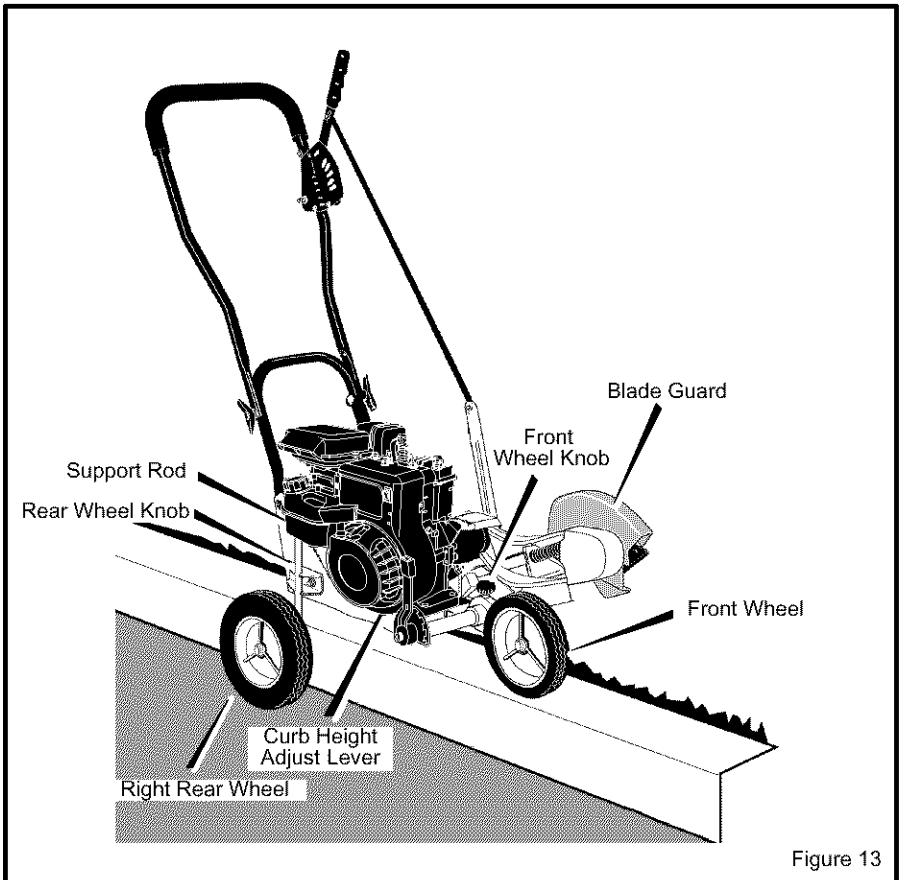

Figure 13
Because the front wheel and the right rear wheel are adjustable, the Edger can be used on uneven surfaces, such as the curb shown in Figure 13. Set the wheel positions as follows.
**wheel** until the **front wheel** is level with the left rear wheel and the unit is setting on the curb as shown in Figure 13.